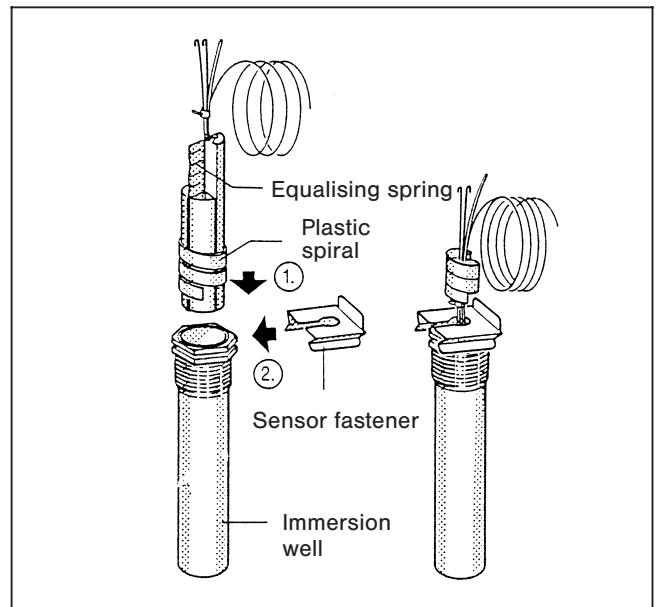

Fig. 8 – Schematic diagram
- The plastic spiral which holds the sensor together automatically moves back during insertion (Fig. 8).
- The equalising spring must be pushed between the sensors (Fig. 8) to ensure contact between the immersion well and the sensor surfaces which in turn ensures reliable temperature measurement.
- Push the sensor fastener onto the immersion well head from the side or the top (Fig. 8).